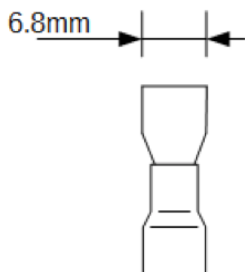

Figure 2: Quick Connect (QC) Dimension
All load negative returns are connected directly to the **J35** negative terminals. All are terminated by using quick connect (QC). Dimension of the QC is specified in Figure 2.